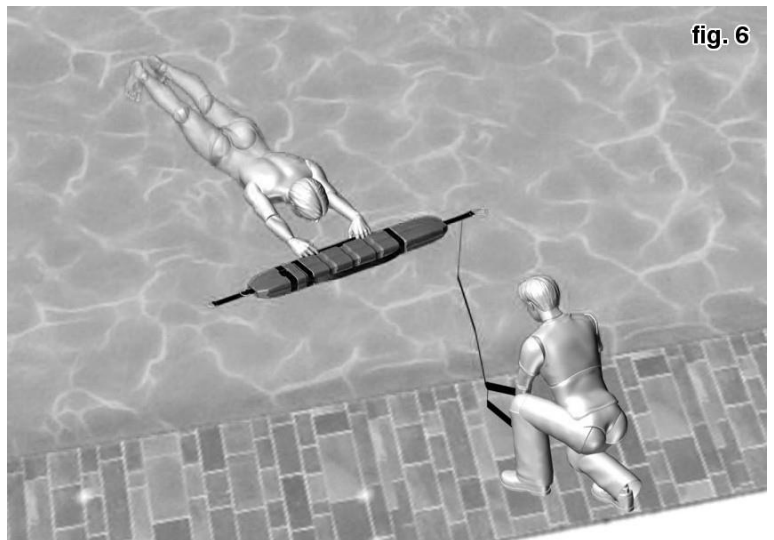

fig. 6
- Pass Dolphin to the subject in distress, standing or kneeling and making sure keep your weight back so as not to be dragged into the water (Fig. 6).